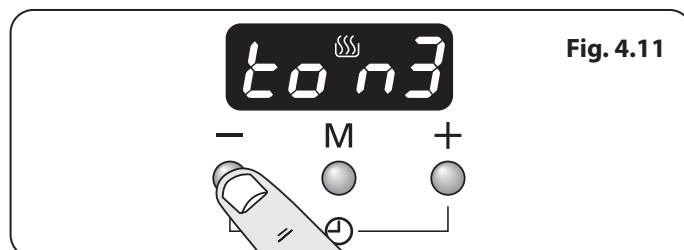

Fig. 4.11
2. To select the tone press the [-] button until desired tone is reached (**Fig. 4.11**).